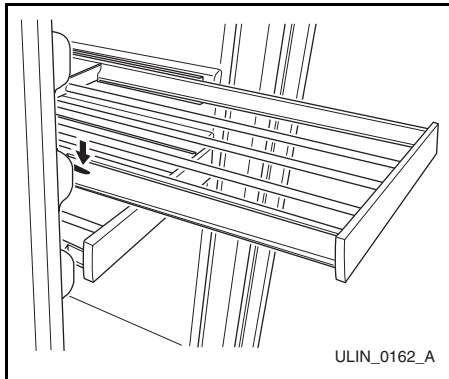

Figure 51
3. Press the left rack release lever (**Figure 51**) down, and at the same time, lift the corresponding right rack release lever up, and pull the rack out until it is free of the tracks and the cabinet.